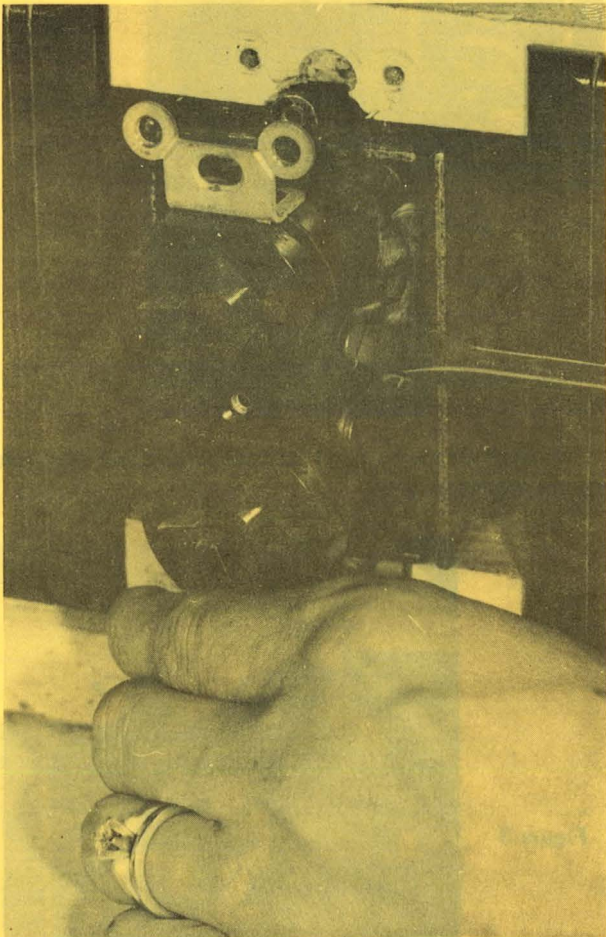

Figure 4
6. Fasten a new receptacle to the old wires, tighten screws (Fig. 4).